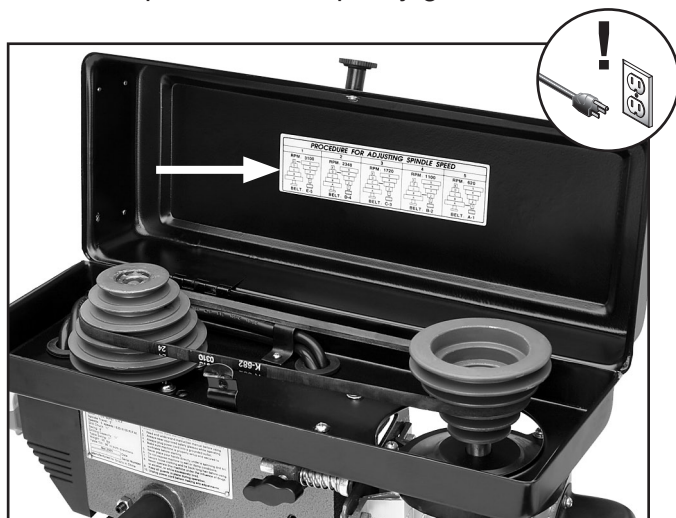

Figure 16. Speed chart.
3. Find your desired speed on the speed chart (**Figure 16**) and move the V-belt to the indicated position in the pulley grooves.